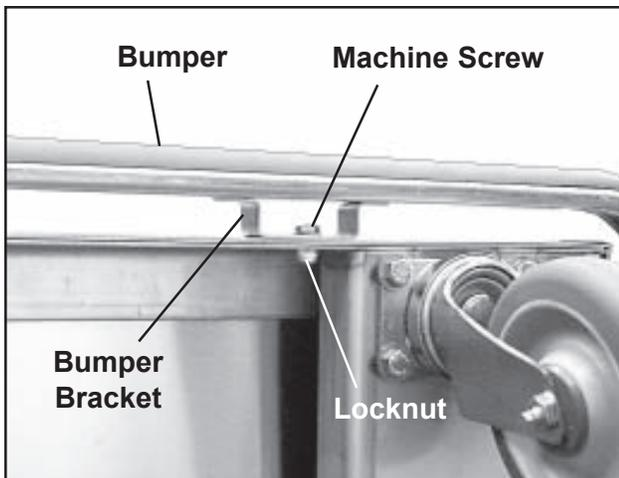

Figure 33. Bumper, Bracket, and Mounting Hardware
2. With two 7/16 in. wrenches remove the machine screws and locknuts from all bumper bracket positions (Figure 33).